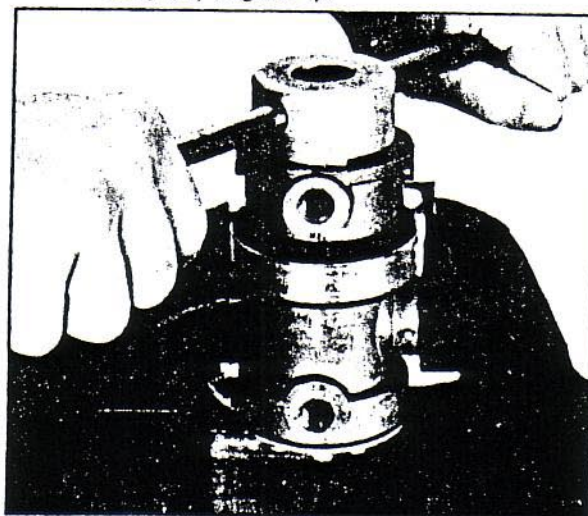

FIGURE 6
1. Place pump, bottom end up in a vise with the switch opening against one of the jaws of the vise (Figure 6).